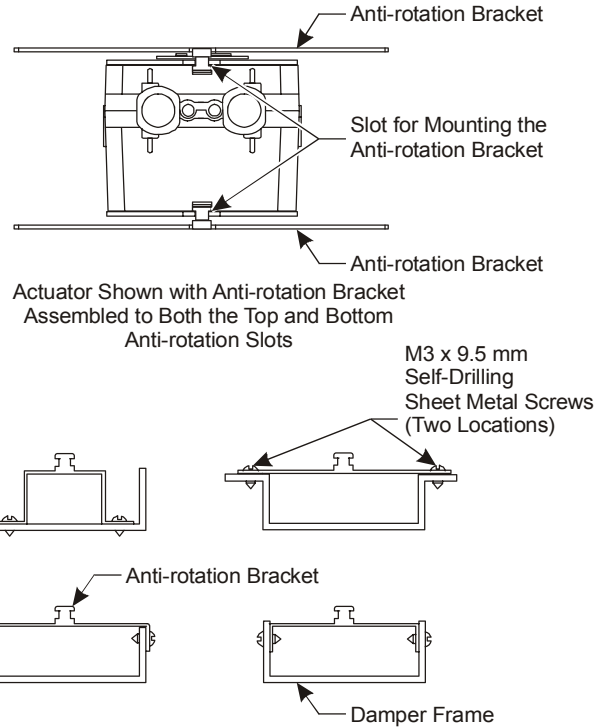

Figure 6: Fitting the Anti-Rotation Bracket on the Damper Frame or Duct
- Bend or cut the anti-rotation bracket to fit the damper frame or duct as illustrated in Figure 6.
- Slide the actuator onto the damper shaft, and position the tab of the anti-rotation bracket into the slot at the bottom of the actuator as illustrated in Figure 6.